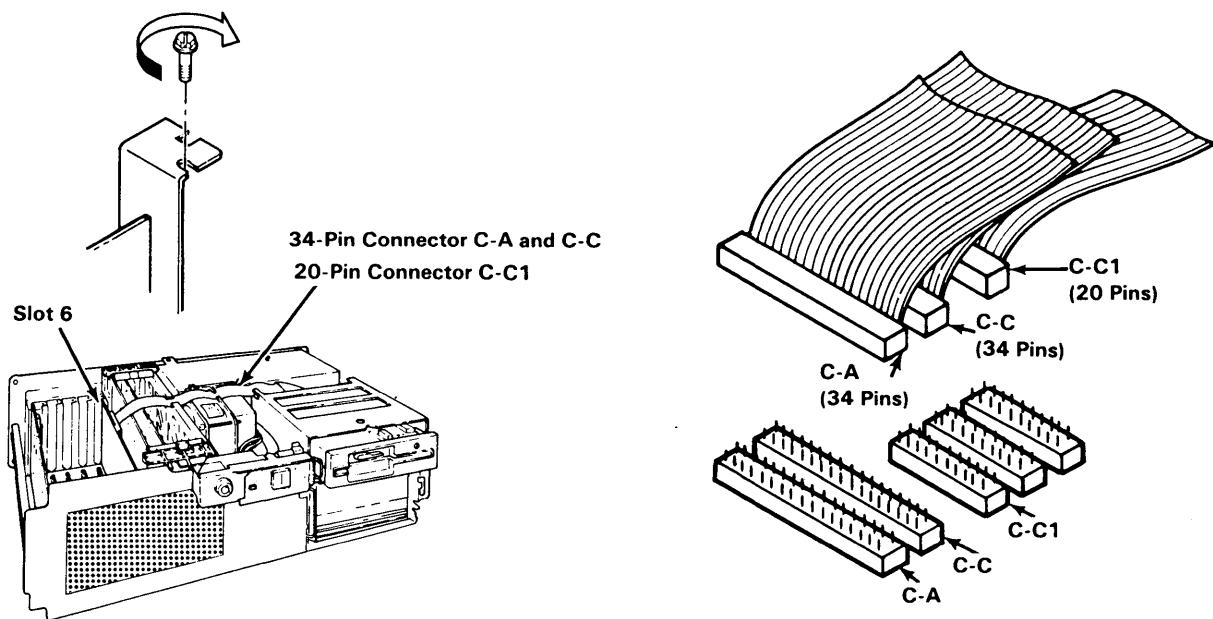

FIGURE 11. CABLES AND PIN CONNECTORS
- (1) Connect the 20-pin cable connector to the 20-pin connector on the adapter. See Figure 11.
- (2) Connect the 34-pin cable connectors to the 34-pin connectors on the adapter. See Figure 11.